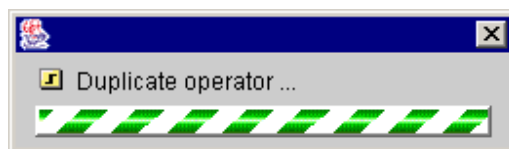

Figure 101 : Duplicate operator bar graph
- ♦ A *Duplicate operator* bar graph (Figure 101) indicates that the operator is being duplicated; *Operator_O* is copied with the *Operator_O_copie* name in the relevant family